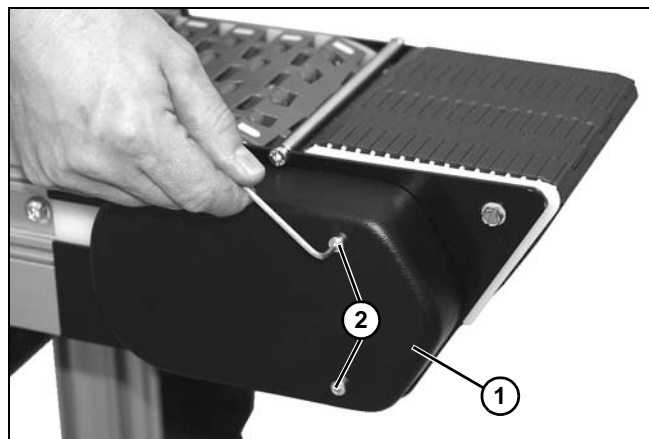

Figure 149
19. Install cover (**Figure 149, item 1**) with two hex head screws (**Figure 149, item 2**).